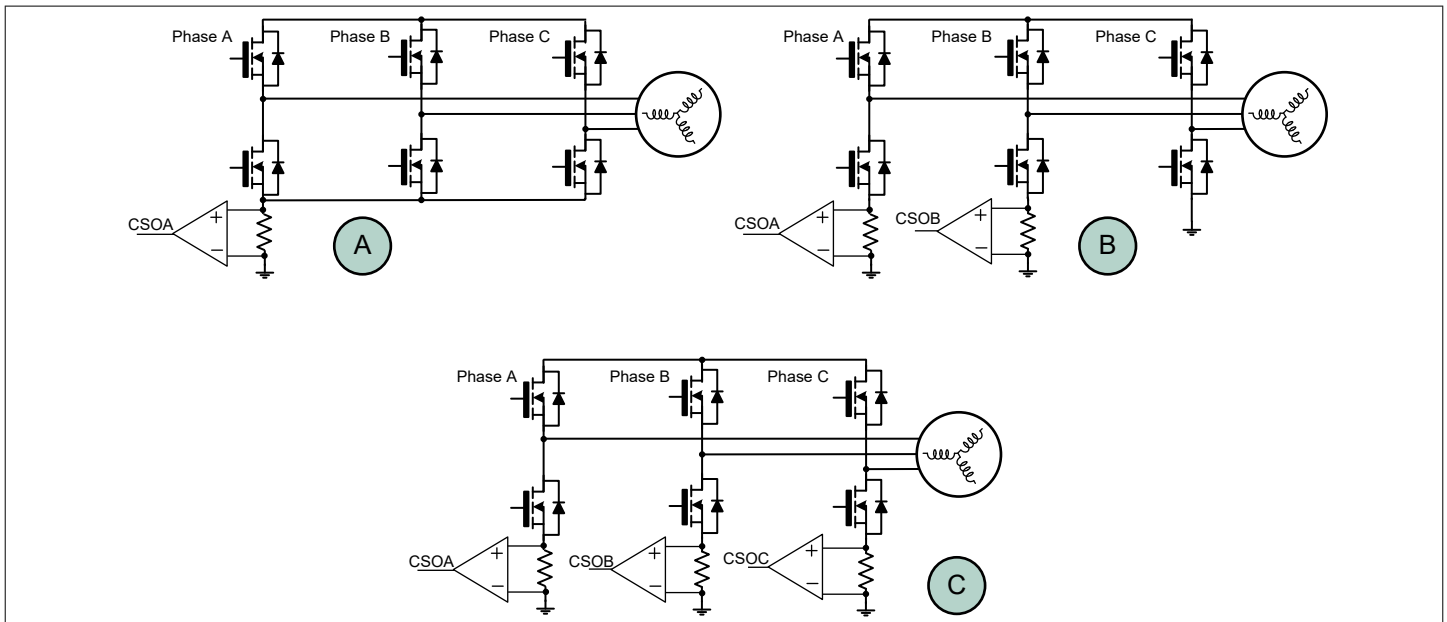

Figure 22 Single (A), dual (B) and triple (C) shunt current sensing configurations
The device integrates three current sense amplifiers that can be used to measure the current in the power inverter via shunt resistors. Single, dual and triple shunts measurements are supported as shown in Figure 22.
- Note:** $R_{\text{DS(on)}}$ sensing mode is only possible in three-phase current sensing (configuration C in Figure 22 with all amplifiers in $R_{\text{DS(on)}}$ sensing mode and shunt resistors removed).